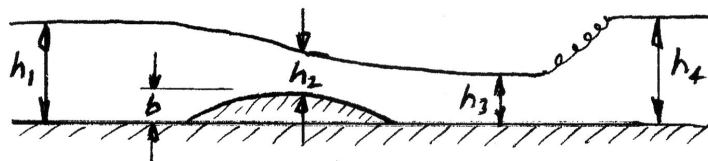

Figure P10.48
10.48 Water flows steadily and smoothly over a bump of height b in an open-channel flow of constant width, as shown in Figure P10.48. The Froude number at the upstream station is F_1 , and the depth is h_1 . The point of minimum depth (the throat) occurs at the crest of the bump, where the Froude number is $F_2 = 1$, and the depth $h_2 = b = h_1/2$. A stationary hydraulic jump is located between points 3 and 4. Assume one-dimensional flow.